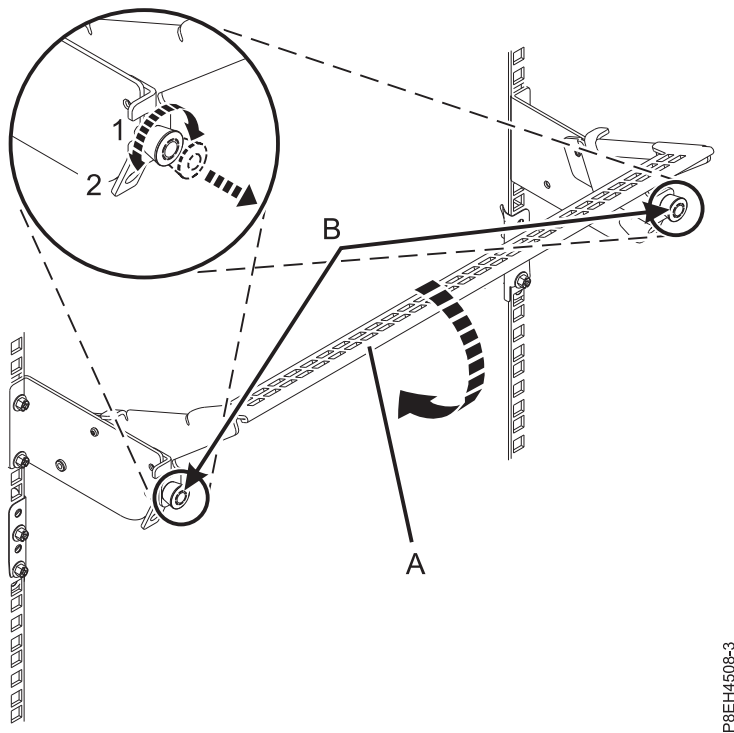

Figure 13. Placing the cable management bracket in the operating position
- a. Pull the quarter-turn fasteners (B) out and turn them to disengage them while moving the cable management bracket (A) to its lower position (2). See Figure 13 on page 16.
- b. Turn the quarter-turn fasteners (B) to engage and lock the bracket into position.